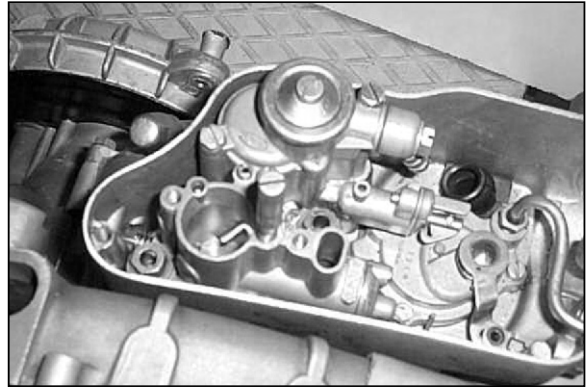

Fig. 73
- (d) Remove oil tube 'M' with nozzle from oil pump cover. (see fig. 73)